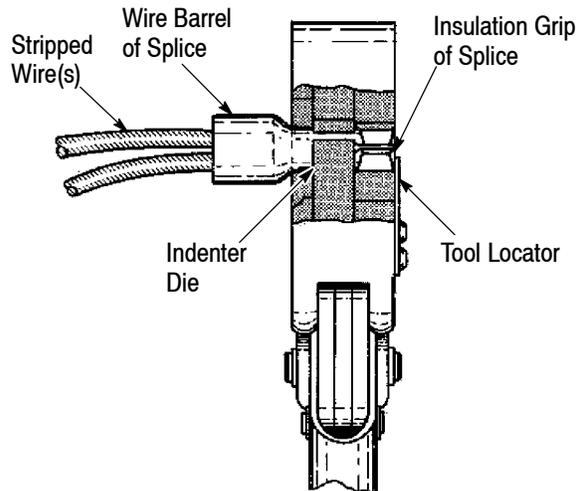

Figure 2
3. Position the splice (with the wire) in the indenter die of the tool so that the end of the insulation grip butts against the locator. See Figure 2.